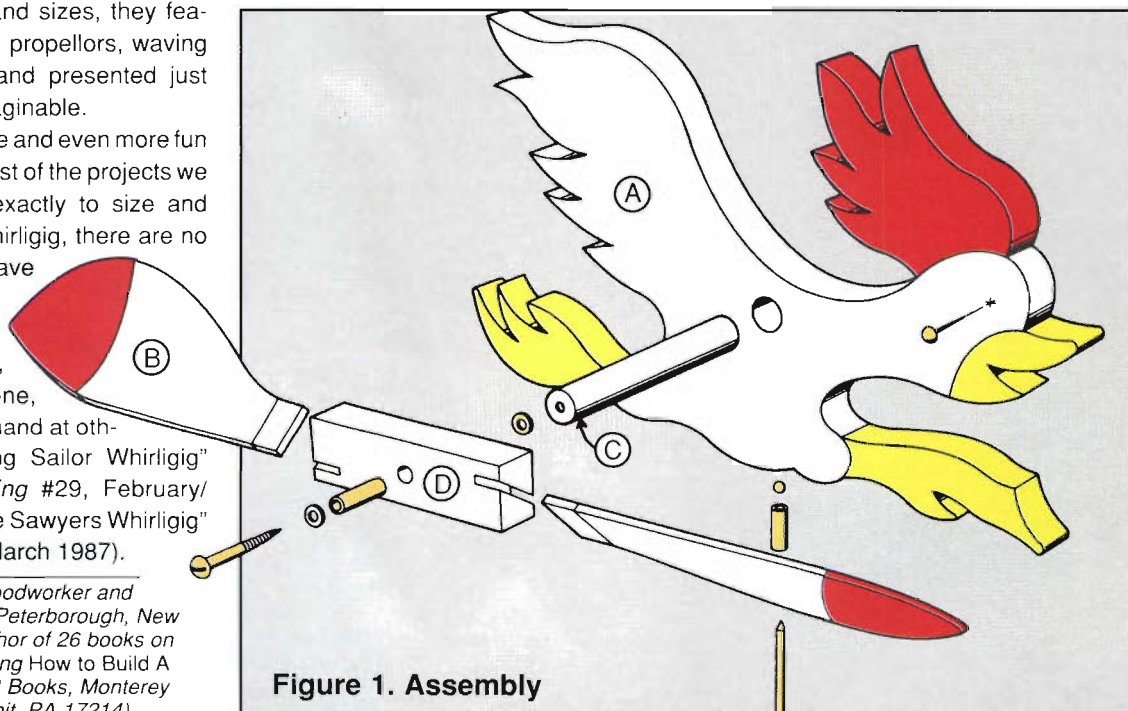

Figure 1. Assembly
Transfer the pattern for the wings (B) from the PullOut™ Plans to one piece of wood. Stack all four pieces, tape them together, and stack-saw the four wings. Glue them to the hubs as shown in Figure 1. The flat edges of the wings face in the same general direction and are located on the same side of the hub.
best. When dry, assemble the project as shown in Figure 1. The wings must turn freely, so don't overtighten the wing screws. The pivot bearing, a brass or steel ball, is held in place by the pivot tube.